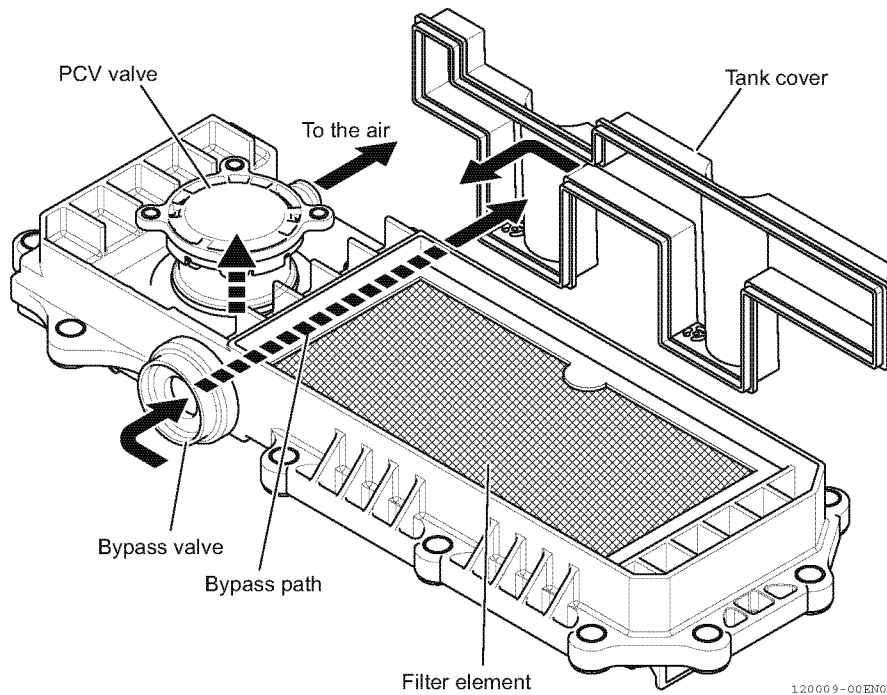
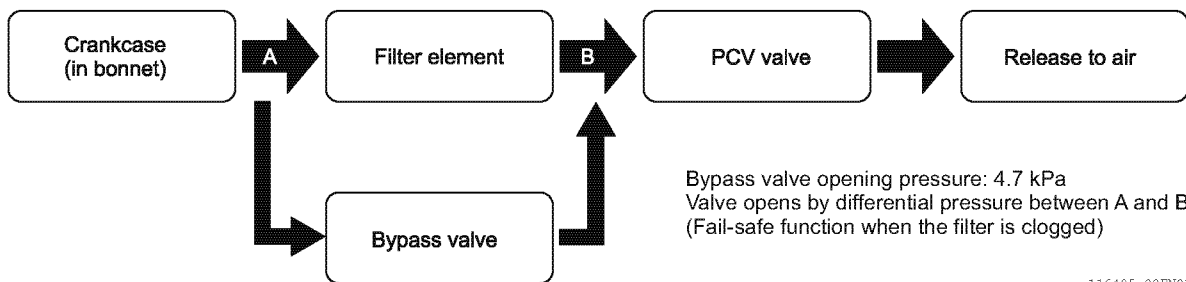

Fig.14-44
Fig.14-45
- When the pressure loss has increased due to filter element clogging, the bypass valve on the intake side of the blow-by assembly will open because of the pressure difference, and blow-by gas will be released to the air through the bypass path before separation of the oil mist. (See Fig.14-44 and Fig.14-45.)